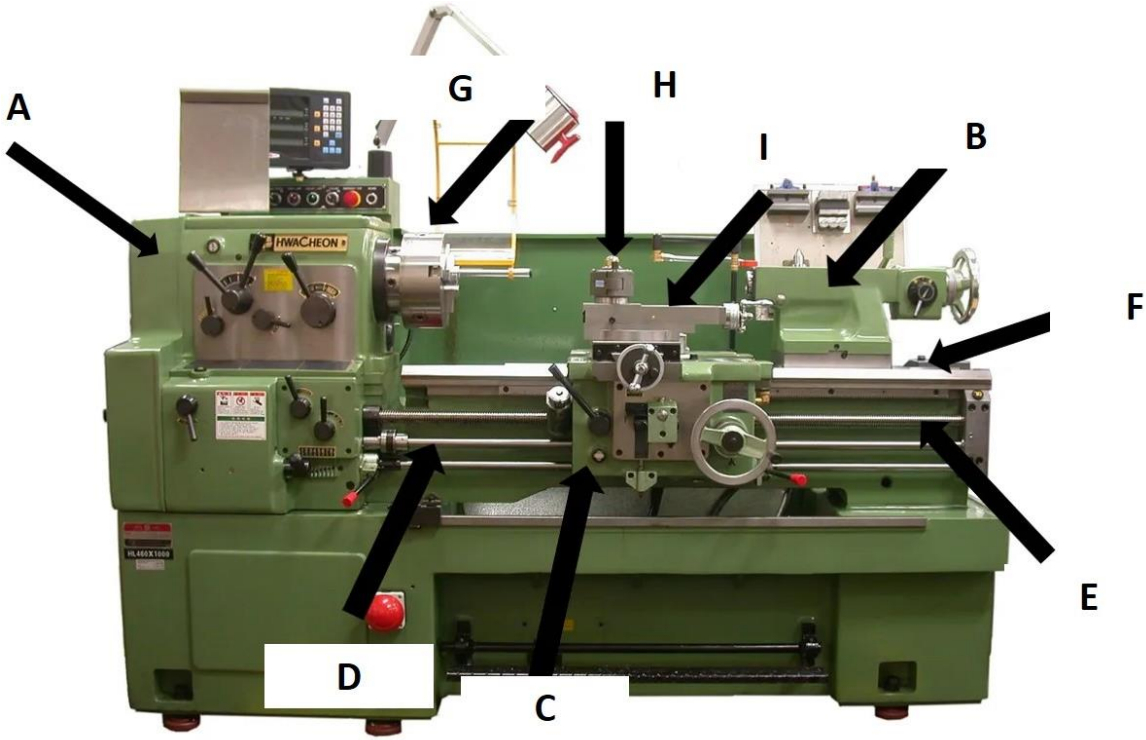

Figure 4
- b) Figure 4 shows a typical lathe machine. Name and describe the use of the following parts: